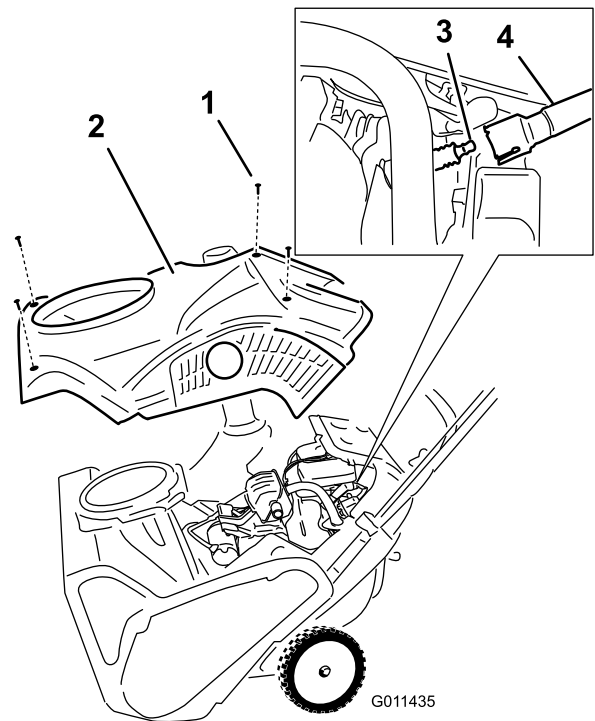

Figure 25
4. Remove the 4 screws that secure the shroud (Figure 25).
1. Screw (4)
6. Remove the shroud (Figure 25).